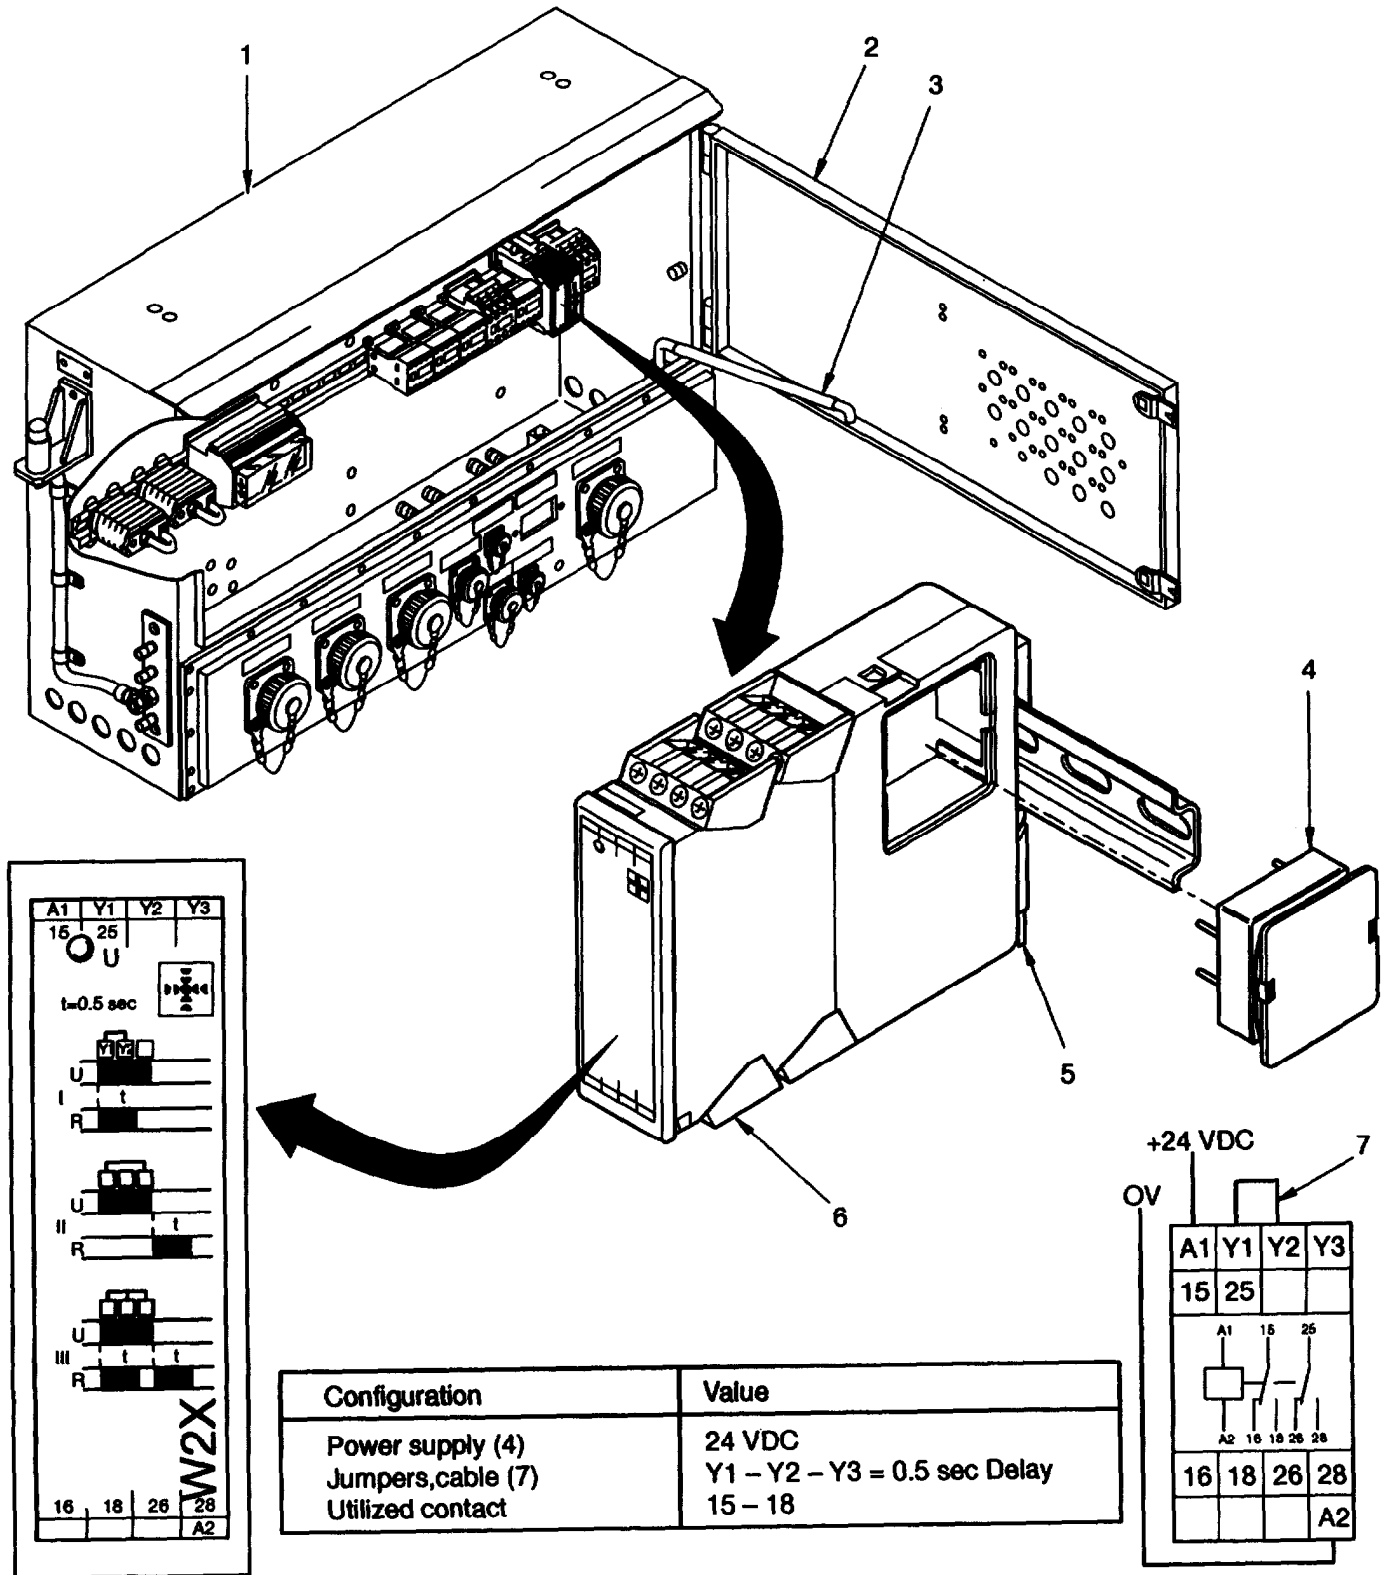

Figure 5-15 Wipe Relay K13.
- a. Remove stanchion by PDU (1, figure 5-15).
- b. Open access door (2) and secure with prop (3).
- d. Record labeling and position of cables from wipe relay K13 (6), and remove cables.
- e. Push in snap mount lock (5) with a screw driver, tilt wipe relay K13 (6) and remove from mounting bar.